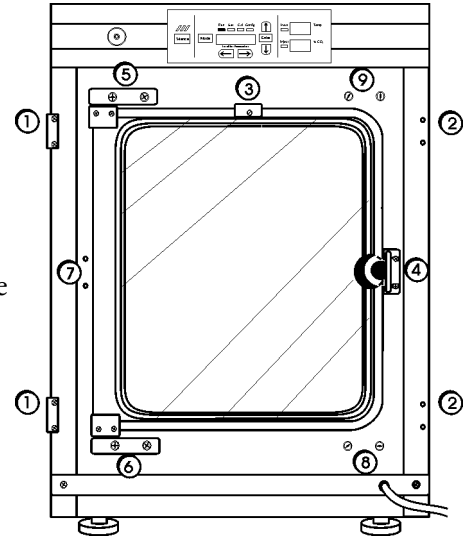

Figure 5-5. Component Locations
8. Refer to Figure 5-5 for the next steps. Remove the nylon screws along the right side of the cabinet. Remove the outer door hinges. Rotate them 180° and install them on the right side of the cabinet. Install the nylon screws in the holes vacated by the hinges.